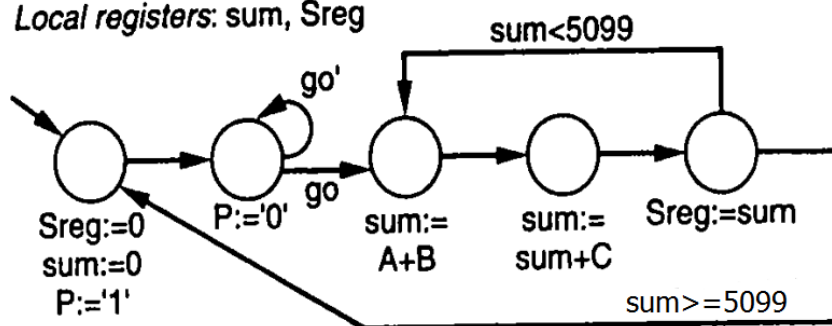

Figure 5.98 Sample high-level state machine.
5.7 Create a datapath for the HLSM in Figure 5.98.